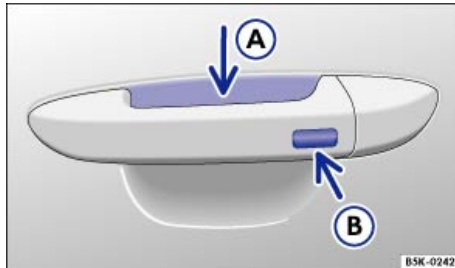

Fig. 25 Keyless Access system: Sensor for unlocking A on the inside of the front door handles. Sensor for locking B on the outside of the front door handles.
All you have to do is touch a sensor surface on one of the front outside door handles ⇒ fig. 25 or push the Volkswagen emblem on the rear hatch ⇒ *Opening the rear hatch* when a valid remote control vehicle key is within range ⇒ ⌚.
- Keyless Entry: Unlocking the vehicle with the sensor surfaces on the outside door handles of the driver or front passenger door ⇒ fig. 25 \(A\) or by using the Volkswagen emblem on the rear hatch.
- Keyless Exit: Locking the vehicle via the door handle sensor on the driver or front passenger door (B).
To use the convenience closing feature to close all power windows and the sunroof, hold your finger on the lock sensor surface on the outside of the door handle ⇒ fig. 25 \(B\) for a few seconds until the windows and sunroof close.